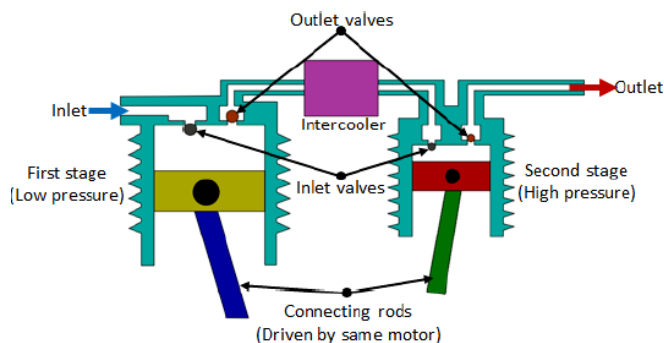

Fig.4.3 Multistage Compressor
- ▶ The multistage compressor with intercooler as shown in Fig.4.3. It is used to reduce the temperature of compressed air during the compression stages.